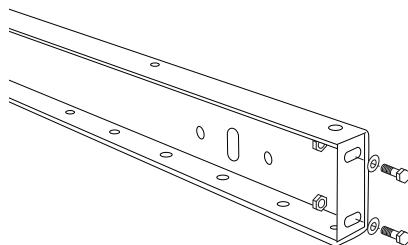

Figure 4
1. Hardware is pre-screwed into the ends of the conveyor frame. Remove the hardware using a 9/16" (14 mm) wrench. (See Figure 4)